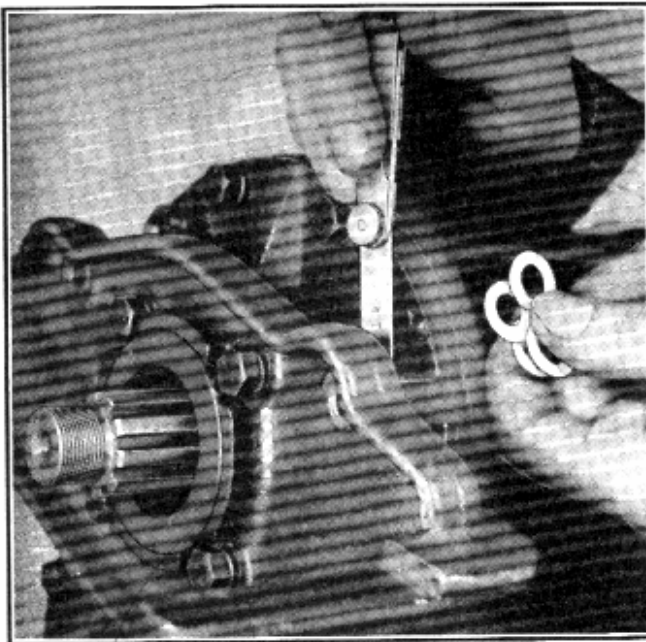

Fig. 36—Determining Shim Thickness for Hand Brake Flange
2. Replace the cover (23) using a new gasket, install the cap screws, but do not tighten. Install the two tapered dowel pins to properly align the cover with the case and then tighten the cap screws securely and evenly, starting at the centre and working toward each end alternately.
3. Install a new oil seal (50) in the driven shaft rear bearing cap and brake flange (51). Install the cap and brake flange assembly over the driven shaft and start the retaining cap screws but do not tighten. Install the universal joint flange (48) over the shaft and through the oil seal to centralize the bearing cap and brake flange (51), then tighten the bearing cap and brake flange cap screws securely. Install the universal joint flange retaining nut (47) and tighten securely and lock in place with a cotter pin.
4. Before installing the three long cap screws which hold the propeller shaft brake flange (51) to the transfer case cover, determine the clearance between the flange and the cover, using a feeler gauge as shown in Fig. 36 and install the correct thickness of shims between it and the cover, then install the cap screws and tighten evenly and securely.